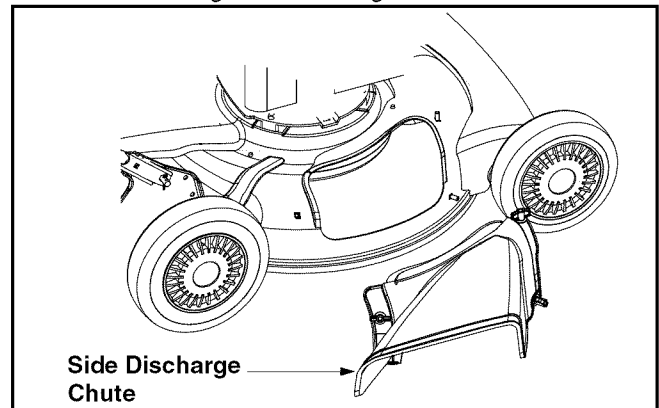

Figure 8
- Attach side discharge chute to unit and secure with the three wing nuts. See Figure 8.